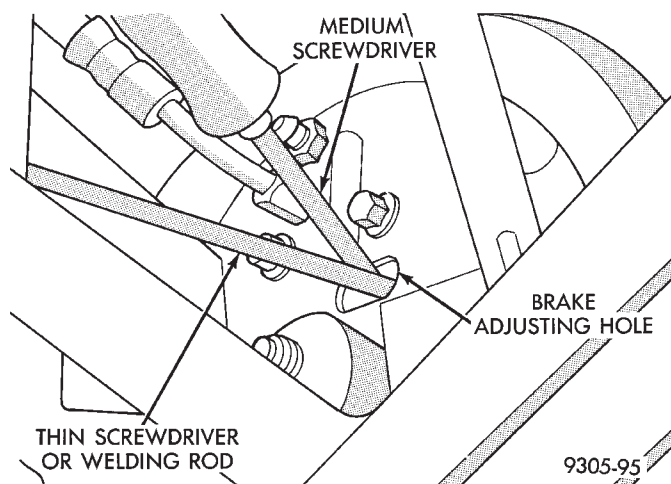

Fig. 176 Rear Brake Shoe Adjustment
(3) Be sure parking brake foot pedal is in its fully released position.
(4) Insert a medium blade screwdriver (Fig. 176) or equivalent through the adjusting hole in the support plate and against star wheel of adjusting screw. Move handle of tool downward until a slight drag is felt when the road wheel is rotated.
(5) Insert a thin screwdriver or piece of welding rod into brake adjusting hole (Fig. 176). Push adjusting lever out of engagement with star wheel. **Care should be taken so as not to bend adjusting lever or distort lever spring.** While holding adjusting lever out of engagement with star wheel, back off star wheel to ensure a free wheel with no brake shoe drag.